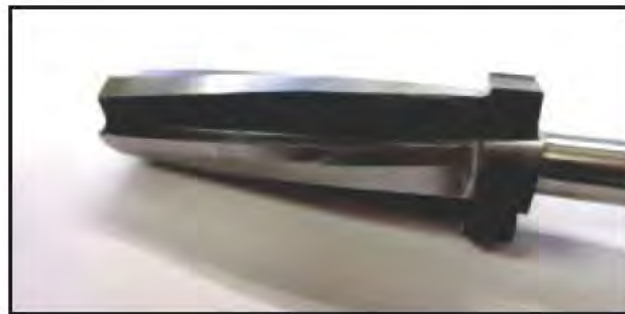

Figure 14 - Reamer Radius Tool N81927
- 1.12. Using a cordless power drill at low RPM, with the N81927 reamer radius tool, enlarge the 4 mounting bracket holes to 20.5 mm. Use cutting oil. See Figures 14 and 15.